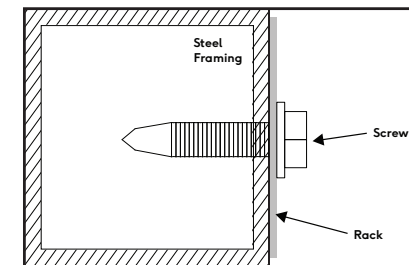

Fig 4/ Steel Framing
- Fig 4** Into Steel Framing – 22mm (7/8") 14 gauge metal tek screw (2 per mounting plate)